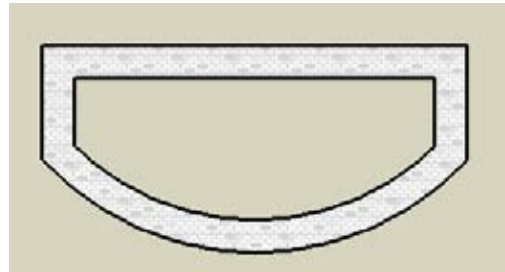

Figure 3-32
1. In Top view, start with a footprint like the one in Figure 3-32. Make the walls overly thick so that the window frame will be overly deep (and easy to see).